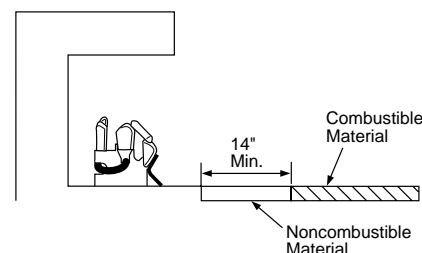

Figure 9 - Minimum Fireplace Clearances if Installed at Floor Level
- If installing appliance on the floor level, you must maintain the minimum distance of 14" to combustibles (see Figure 9).